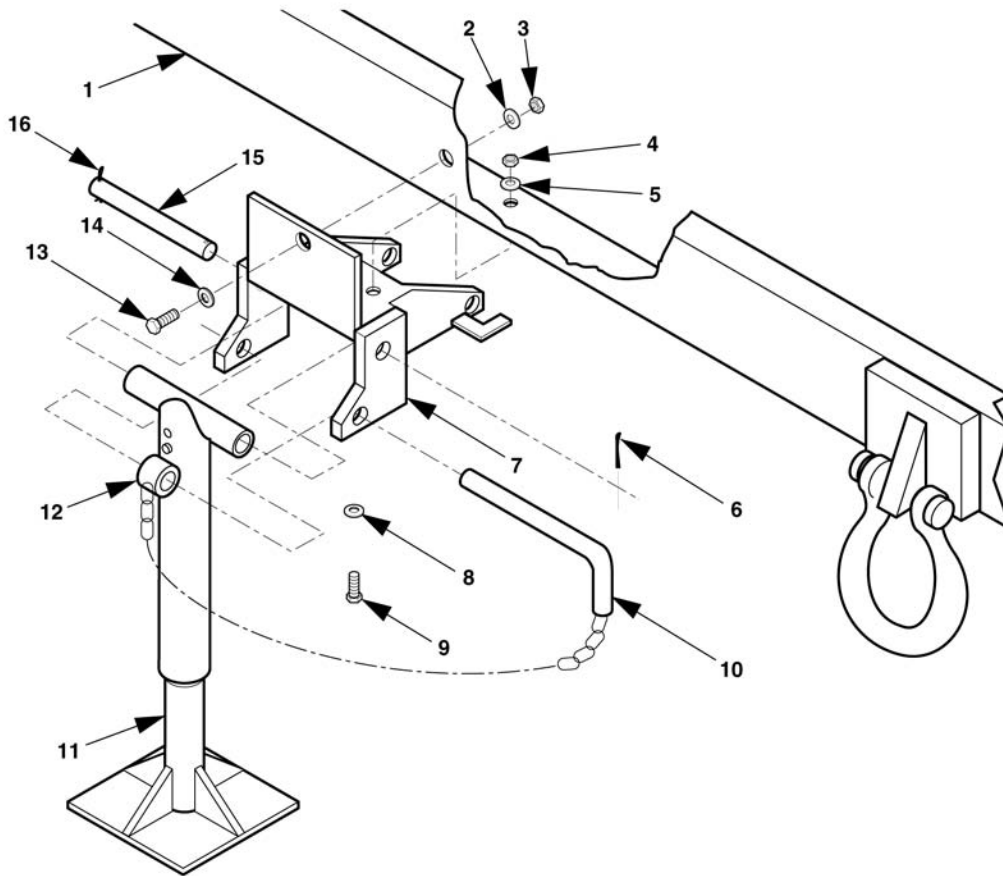

Figure 4-23. Jack, Leveling Support Replacement, 1 Ton Trailer.
1. Install bracket (7, Figure 4-23) on trailer chassis (1), with flat washer (14) and bolt (13), through mounting hole in bracket (7) on trailer chassis (1).
2. Install flat washer (2) and a new self-locking nut (3) on bolt (13).
3. Install bolts (9), flat washers (8 and 5), and new self-locking nuts (4).
4. Position leg base (11) and attached parts in bracket (7) and install retaining pin (10).
5. Position leg base (11) and install pivot shaft (15).
6. Install new cotter pin (16 or 6) in pivot shaft (15).